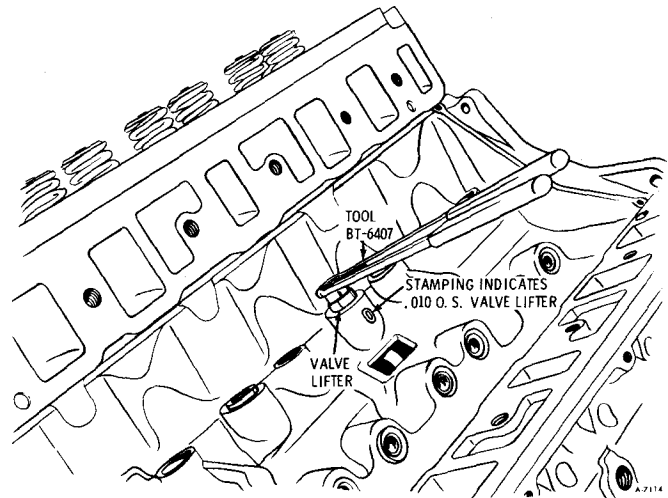

Figure 25—Removing Valve Lifter
REMOVAL (FIGURE 25)
1. Assemble ball check, spring and retainer into plunger (figure 25). Make sure retainer flange is pressed tight against bottom of recess in plunger.